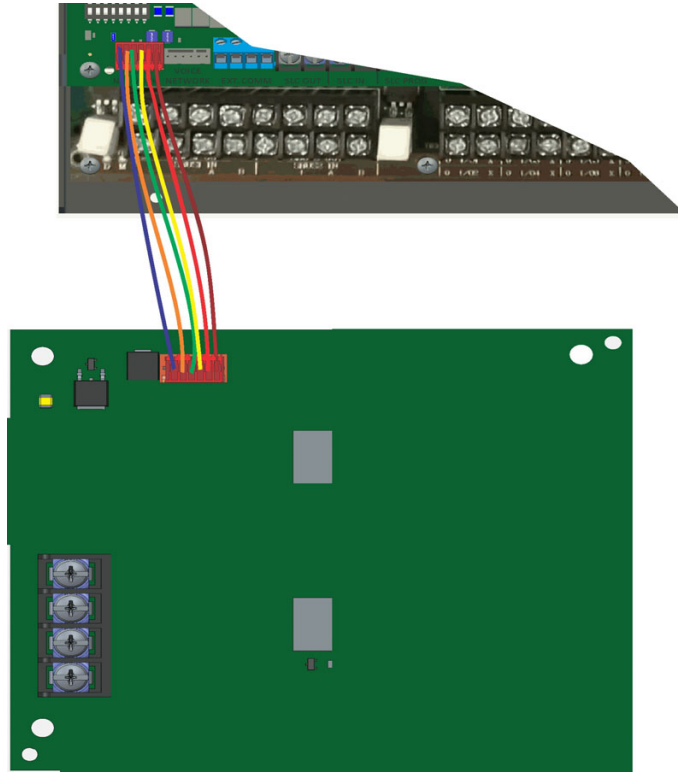

Figure 5.6 Panel to SK-NIC connection
2. Use the 6-pin cable included with SK-NIC to connect the IFP-300/ECS to the SK-NIC. Connect the SK-NIC to the pin connector on the control panel labeled Data Network. See Figure 5.6.